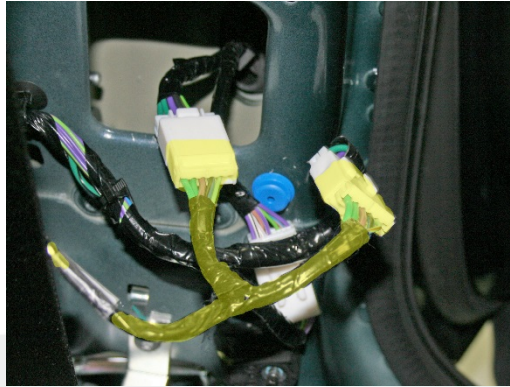

Figure 12 (TPMS harness highlighted)
10. Plug the 2 connectors on the TPMS harness into the newly-exposed door harness connectors (Figure 12).